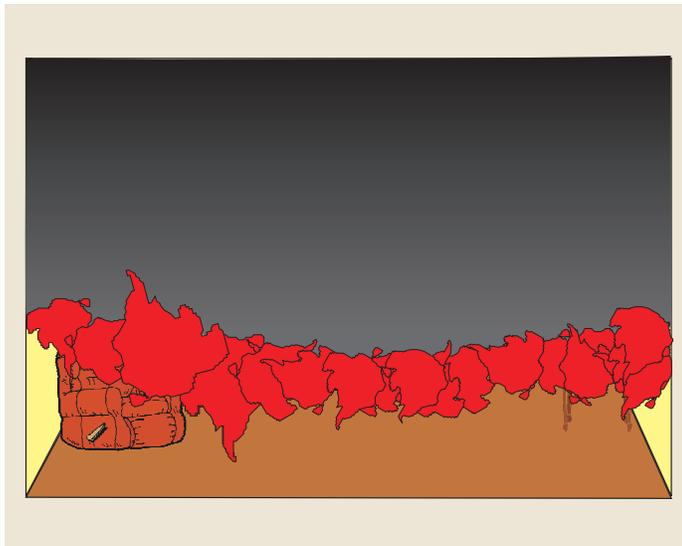

**Figure 1.3**
The fire starts when a heat source such as a cigarette ignites the sofa. The air in the room provides the oxygen. As the fire consumes the oxygen in the air, it emits smoke and carbon monoxide (CO), a toxic and combustible gas. The hot smoke and CO are lighter than the surrounding air and rise toward the ceiling, as shown in Figure 1.3.